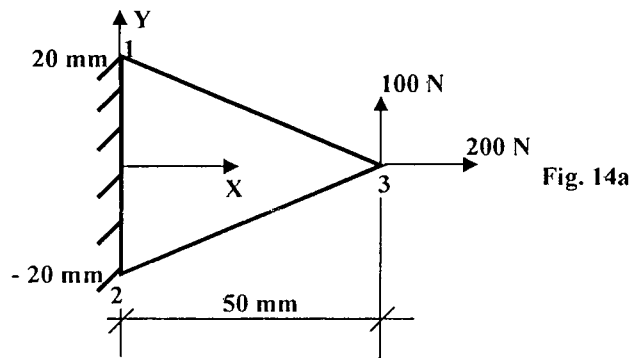

Fig. 14a
- 14 a) Find the stresses in the plate shown in Fig. 14a using one CST element. $E = 200 \text{ GPa}$, $\nu = 0.3$, $t = 5 \text{ mm}$. (16)